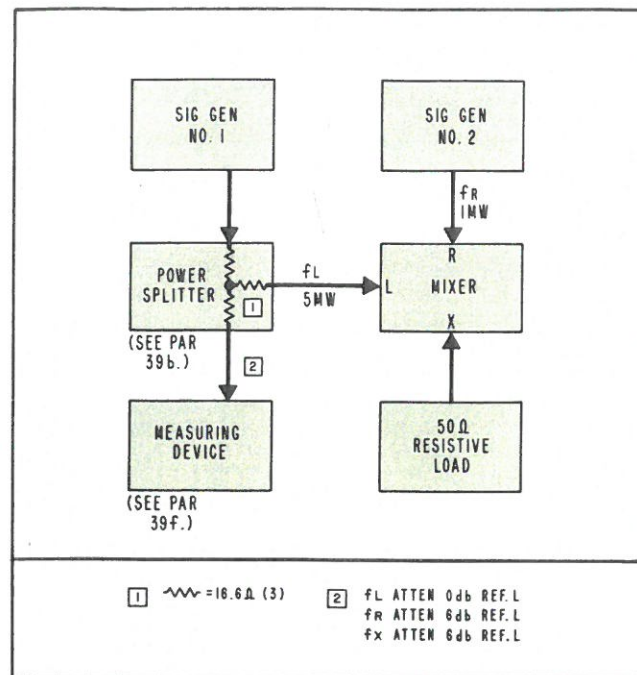

Figure 11. Test Setup-Mixer Balance
- 2) Connect Signal Generator #1 to Power Splitter shown in Figure 11. The values for the Power Splitter resistors are chosen so a 50-ohm load is presented at any terminal when the other two terminals are terminated with 50-ohm loads.
- 9) Connect a Measuring Device such as the one described in Paragraph 37, step a7, to the Power Splitter output as shown in Figure 11.